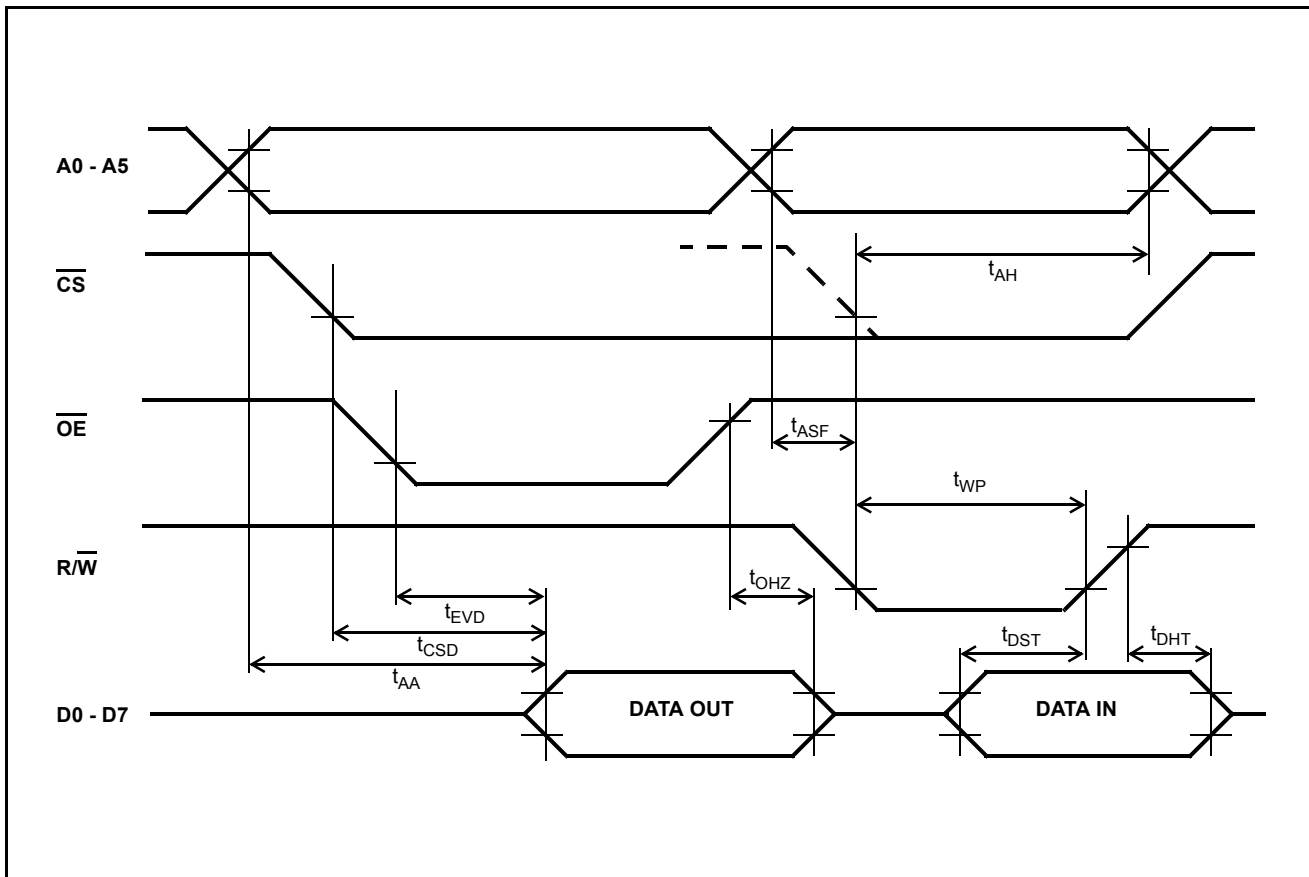

Figure 15 - Mode 2 Timing Diagram (No Contention)
**AC Electrical Characteristics† - Mode 2 Parallel Bus Timing - (see Figures 15 and 16)**